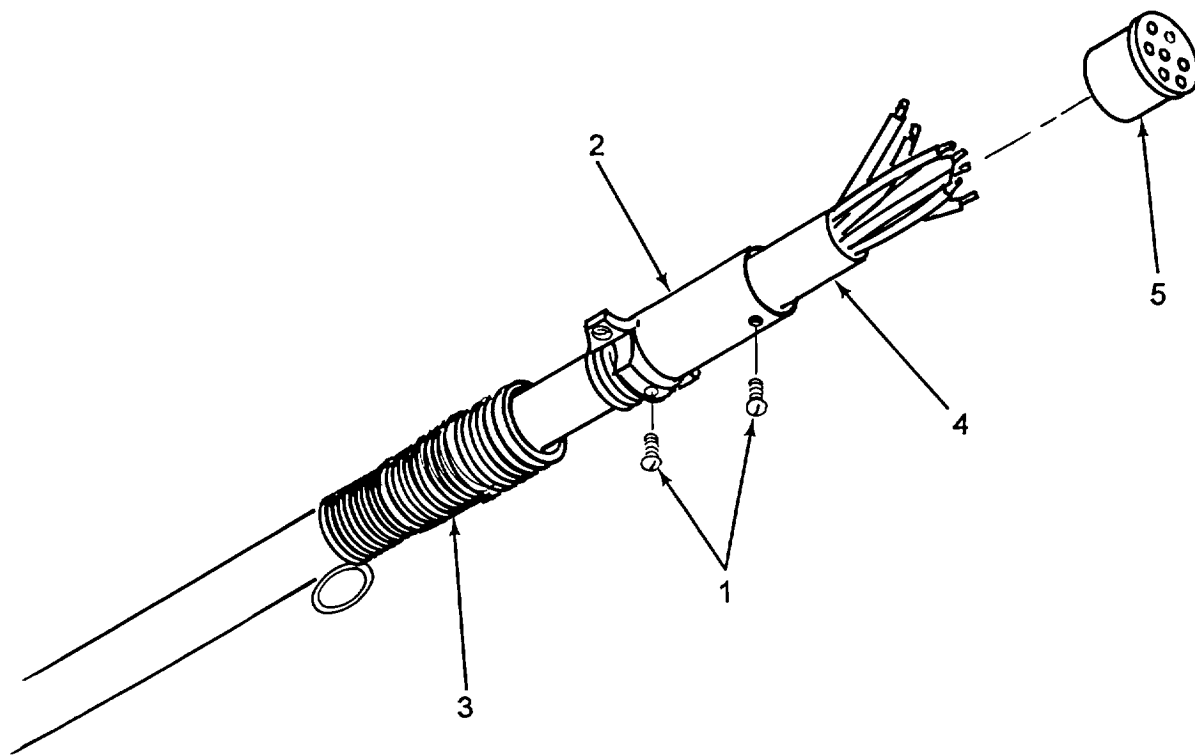

Figure 5-29. Intervehicular Wiring Harness
a. Removal. (Refer to Figure 5-29.)
- (1) Tag and disconnect wires from ending points in voltage reducer box (1).
- (2) Tag and disconnect plugs from lights and markers.
- (3) Remove nine screws (2), nine lock-nuts (4) and nine cable clamps (5) along with trailer wiring harness (6) from frame (7).